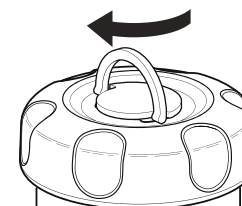
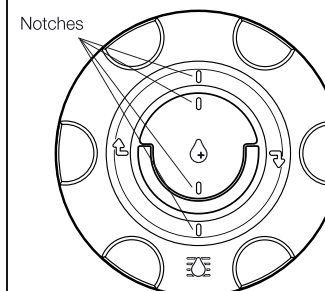

Figure 5.7 – Locking Enhancement Tank Cap
Figure 5.8 – Aligning Notches to Lock in Place
6. Rotate cap 90 degrees clockwise and lock into place (see Figure 5.7). Rotate until notches on cap and filter top align (see Figure 5.8).